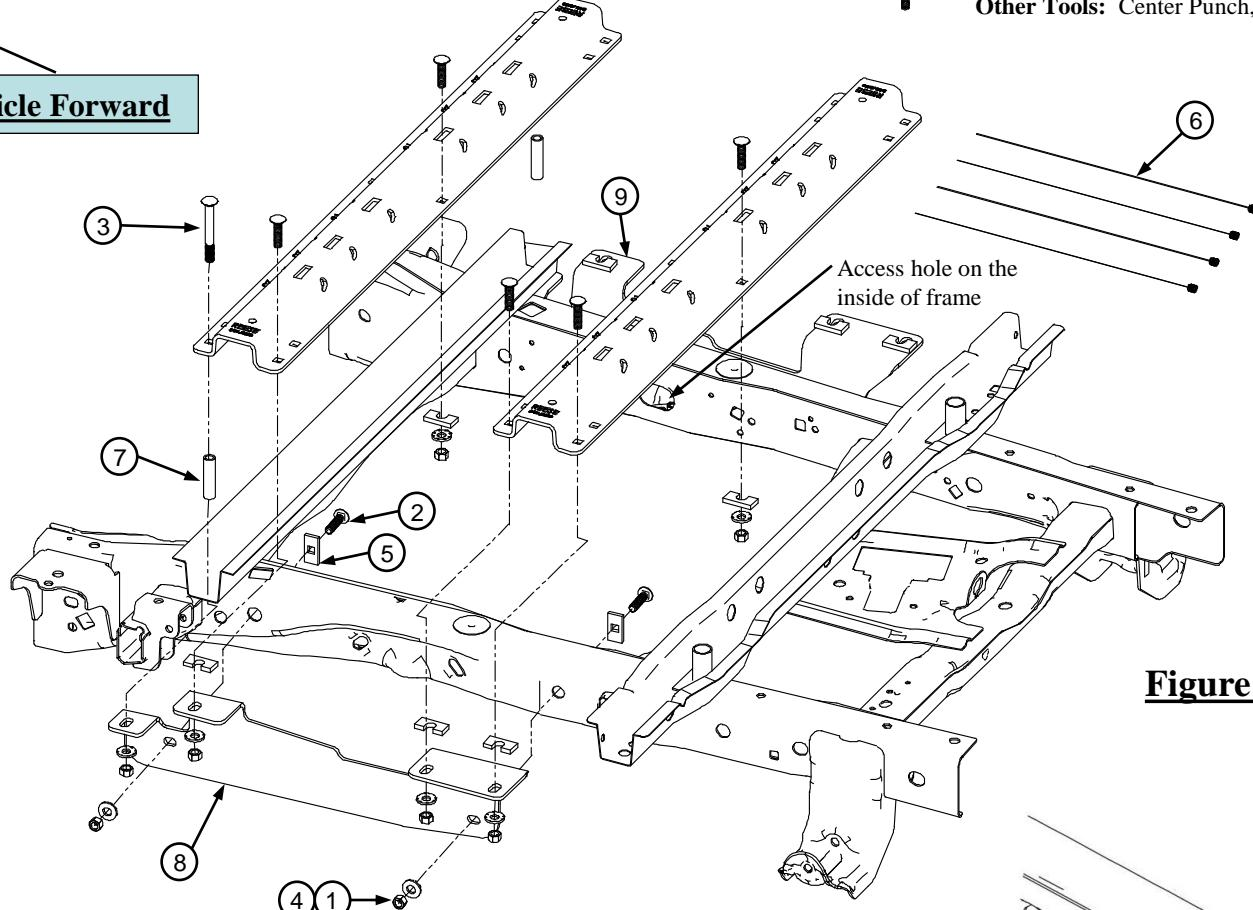
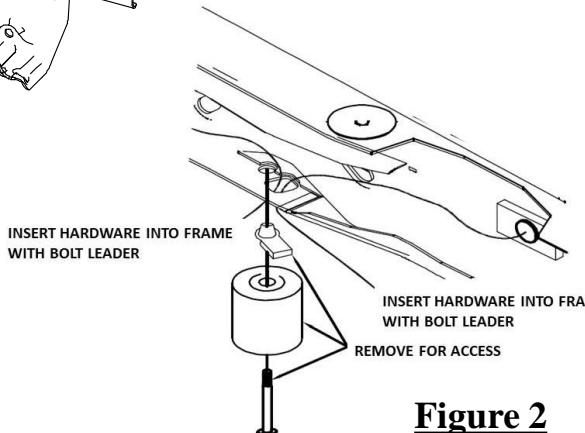

Figure 1
Figure 2
When installing to Figure 1 & 3, during drilling protect the fuel tank and filler tubes, brake lines and wire harness by placing a piece of metal between the box floor and potential components at risk on the driver's side. This will prevent drilling into these items.
2. If there is no access hole on the inside of the frame see Figure 1. Remove the Axle Bumper bolt, Axle bumper and Multi-Thread U-nut from the under side of the frame on driver side and passenger side of the vehicle and keep the Axle Bumpers and hardware see Figure 2.
5. Loosely install the frame brackets (8) & (9) using the appropriate hardware and tighten hand tight. (See Figure 1)
- Starting with the front mounting hole first, insert the head of the pull wire (6) through the 1 inch diameter mounting hole on the side of the truck frame and out through the 1 inch square access hole in the bottom of the frame or access hole on the inside of frame.
- Slide the block (5) over the head of the bolt leader and attach the 1/2 x 1-1/2 inch bolt (2).
- With the other end of the pull wire (6), thread it through the back side of the frame bracket (8) & 9) and gently pull on the end of the pull wire (6) so that the hardware moves through the frame and into position in the frame bracket.
- Install the 1/2" conical washer (1) and 1/2" nut (4). (hand tighten only)
6. Check that the 1/8 inch drilled holes align with the slots of the frame bracket (8) & (9).
9. Install the 1/2" x 2 inch carriage bolts with the U-shaped spacer to be located in the corrugation between the box and the mounting rail or between box and frame bracket (8) & (9). This insures a metal to metal contact and to prevent crushing the bed corrugation. Attach with spacers, washers, and hex nuts as per the illustrations and tighten snug to keep the mounting rail from moving.